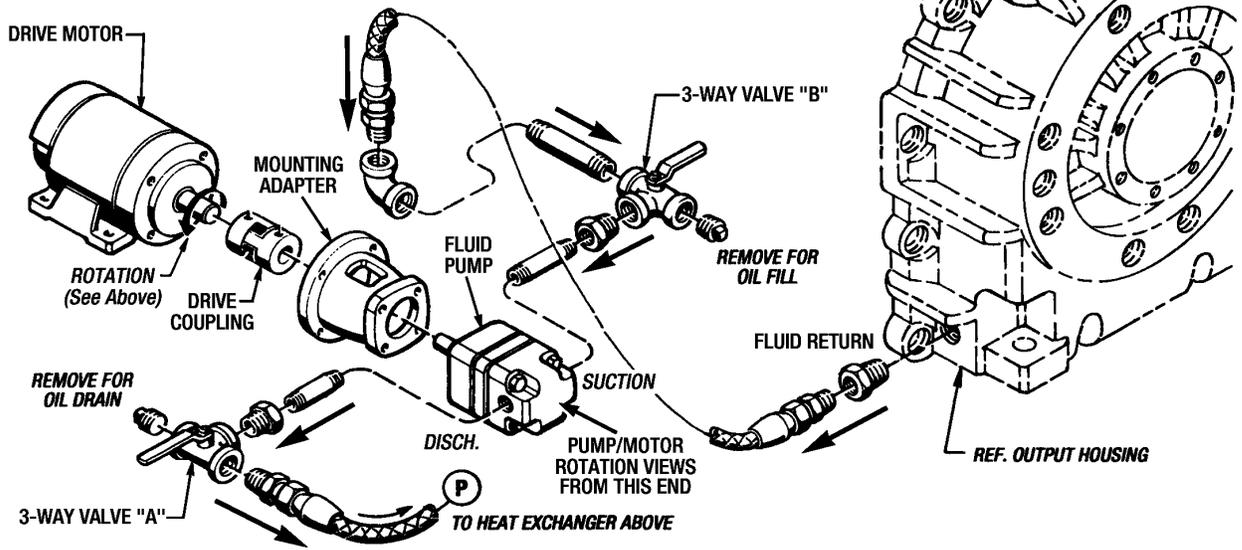

Figure 7 - External Cooling System
3. Bump cooling oil pump motor and check rotation with arrow on pump mounting bracket (See Figure 7). To reverse the direction of rotation of a three-phase motor, interchange any two of the line wires to the motor leads. Start the cooling oil pump to purge air out of the lines and components of the cooling system. Stop the motor and allow oil to drain back to the sump. Check out level and add oil as required. Weekly thereafter (until experience dictates otherwise) check the oil level. When the drive is stationary the oil level should be at the full mark.